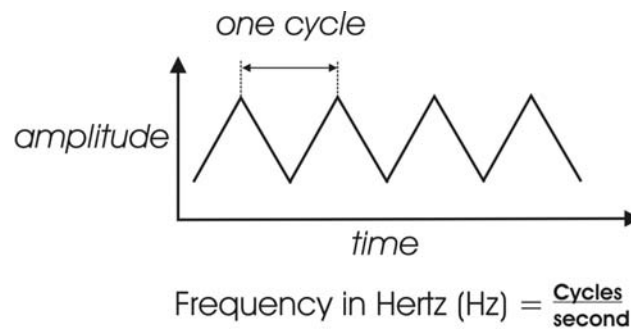

figure 3
**Frequency**– The rate of vibration in sound measured in Hertz (Hz or cycles/second) (figure 3). Our ears can hear from 20 to 20,000 Hz. Frequency corresponds to the musical term, pitch. A low frequency corresponds to a low-pitched sound such as a bass; a high frequency sound corresponds to a high pitched sound such as a piccolo. In music, a change in pitch of one octave higher equals a doubling of the frequency.